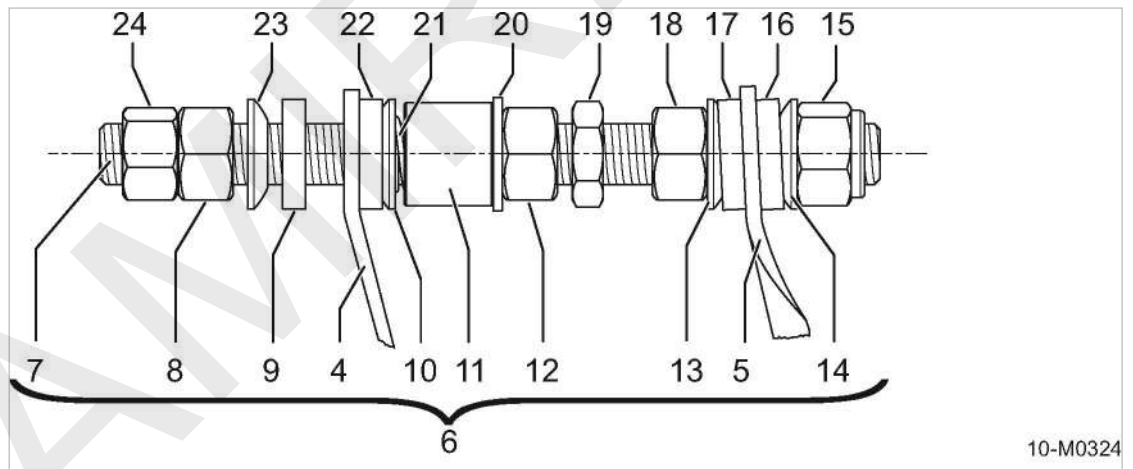

Fig. 75 Generator belt tensioner
See chapter 10.7.8.3; Figure 75.
(see figure 75 for location).
1. Remove the tensioning device (see Fig. 75).
- Loosen nuts (24) and (8) and lock together at the end of the threaded rod (7).
- Loosen nuts (19) and (12) on the tensioning frame (4) until the belt is completely slack.
- Loosen the locking nut (18).
- With the help of the nut (6), unscrew the tensioning device (8) from the locknut (15).
- Remove the tensioning device (6) from the tensioning frame (4) and belt tensioner holder (5).
3. Mount the tensioning device (see Fig. 75).
- Mount the tension device (6) in the tensioner holder (5) and tensioning frame (4) as illustrated.
- Lock the nut (8) to the nut (24).
- Tighten the tensioning device (6) to the side of the motor with the nut (15). For this, the tensioning device must be screwed into the locknut (15).
- Use a wrench to fixate the nut (18). Use another wrench to turn nut (8) counter-clockwise. Secure the nut (18) with a drop of liquid thread lock to prevent a potential loosening due to vibration stresses.